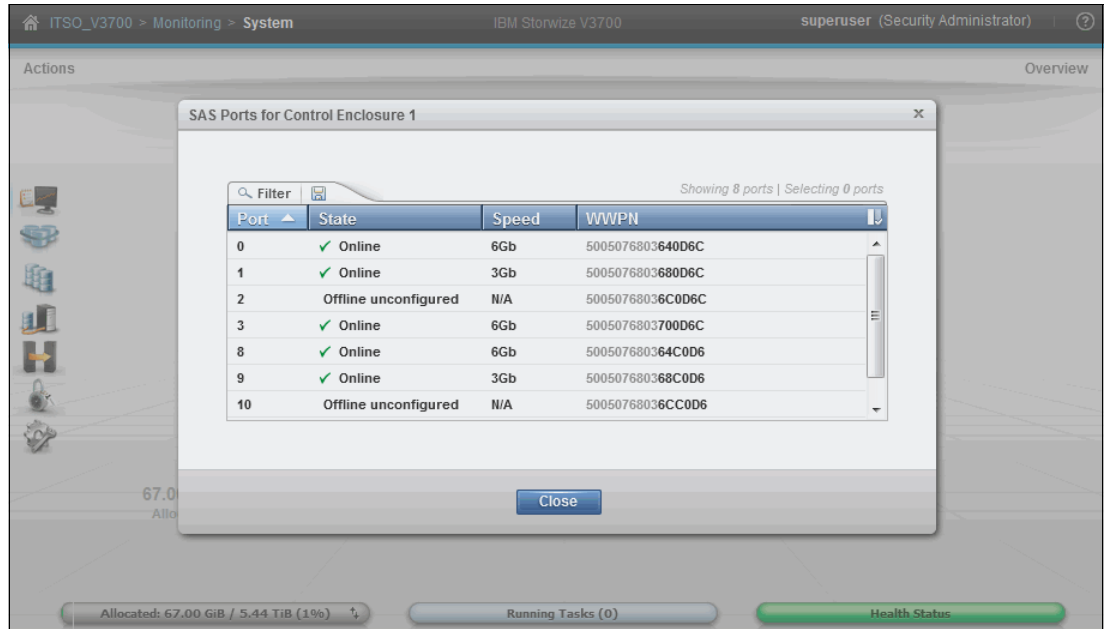

Figure 6-10 Storwize V3700 SAS port list
11. A list of the SAS port WWPNs is presented, as shown in Figure 6-10. Record the WWPN of the ports that are used to connect to the external System Storage DS3200.